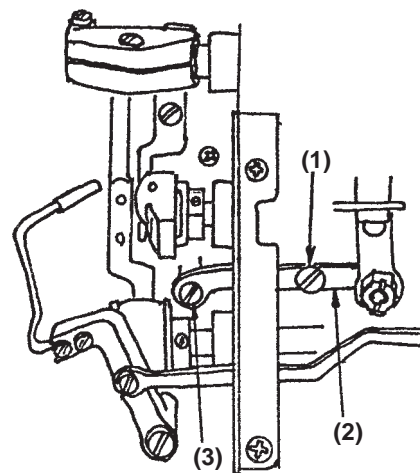

Fig. 26
- 1) Remove moving knife hinge screw (Fig. 26 (1)).
- 2) Slide moving knife link (Fig. 26 (2)) to this side, and draw moving knife link (2) from knife forked pin (Fig. 26 (3)).
Insert the moving knife link into knife forked pin (Fig. 26 (3)), and attach moving knife link hinge screw (Fig. 26 (1)). Finally, move the moving knife link to the left and right, and check that the moving knife moves.